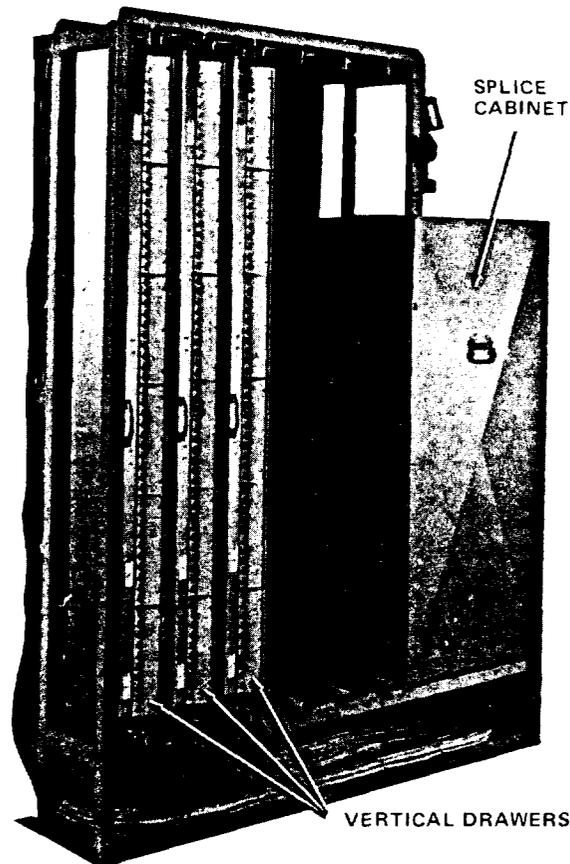

Figure 10. SDA with Splice Cabinet — Cover Installed
4.15 The SDA (Figure 10) provides high-density bulk protection for voice and data lines using 3- or 4-type protector units. When pulled open, the drawer telescopes out about 15 inches (381 mm) and latches. The connectors are mounted laterally in the frame vertical. After servicing, the drawer is manually unlatched and pushed back into its stored position.